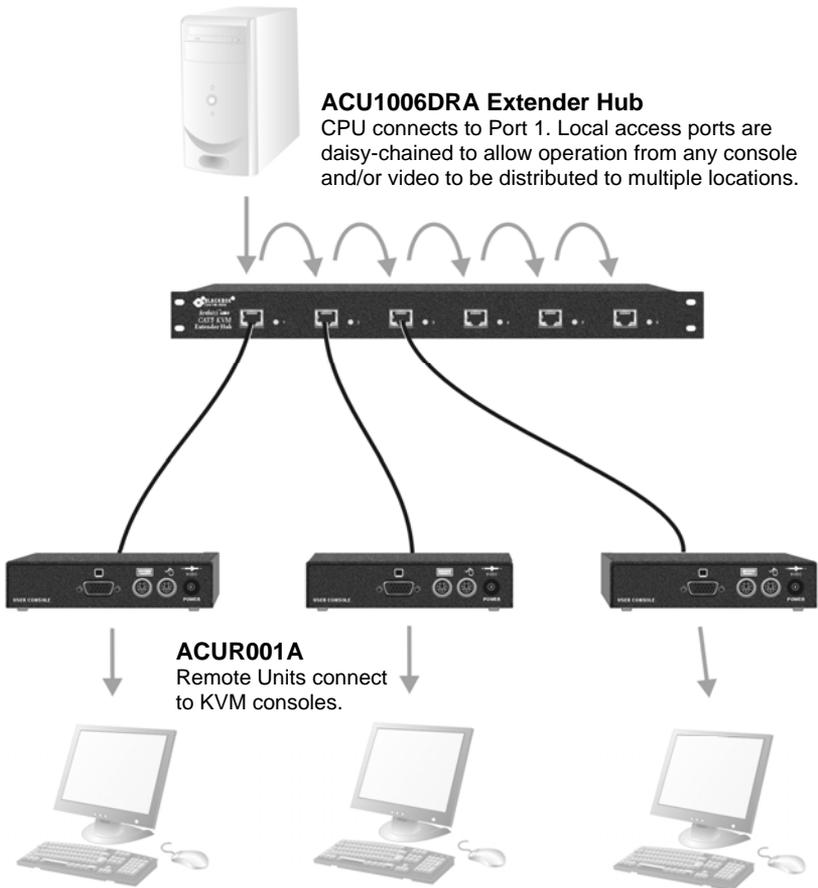

Figure 17
- Information distribution system sharing a single PC at up to six remote locations (Figure 17).